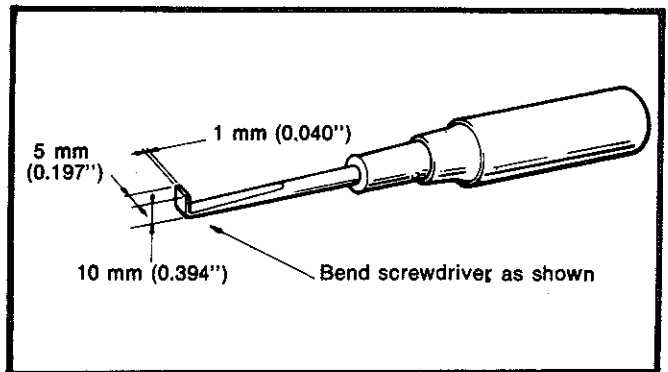

Fig. 27—Modified screw driver dimensions
(1) Apply a mixture of soap and water to the moulding groove in the weather strip.
(2) Modify a screw driver or suitable piece of steel to the dimensions shown in Fig. 27.